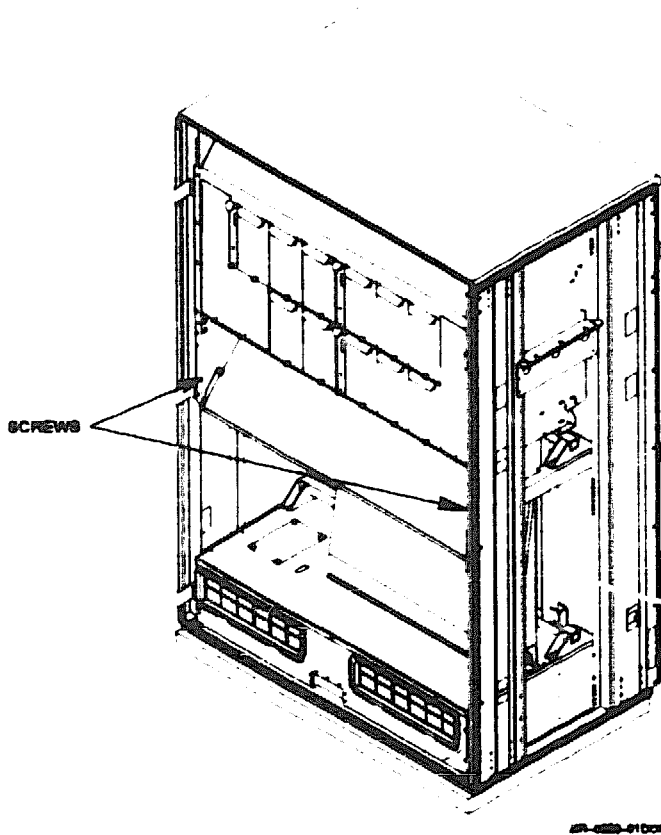

Figure 2-2 Plenum Assembly Retaining Screws
6. At the front of the CPB cabinet, use a Phillips screwdriver to remove and then discard the two retaining screws that secure the plenum assembly during shipment (Figure 2-2).